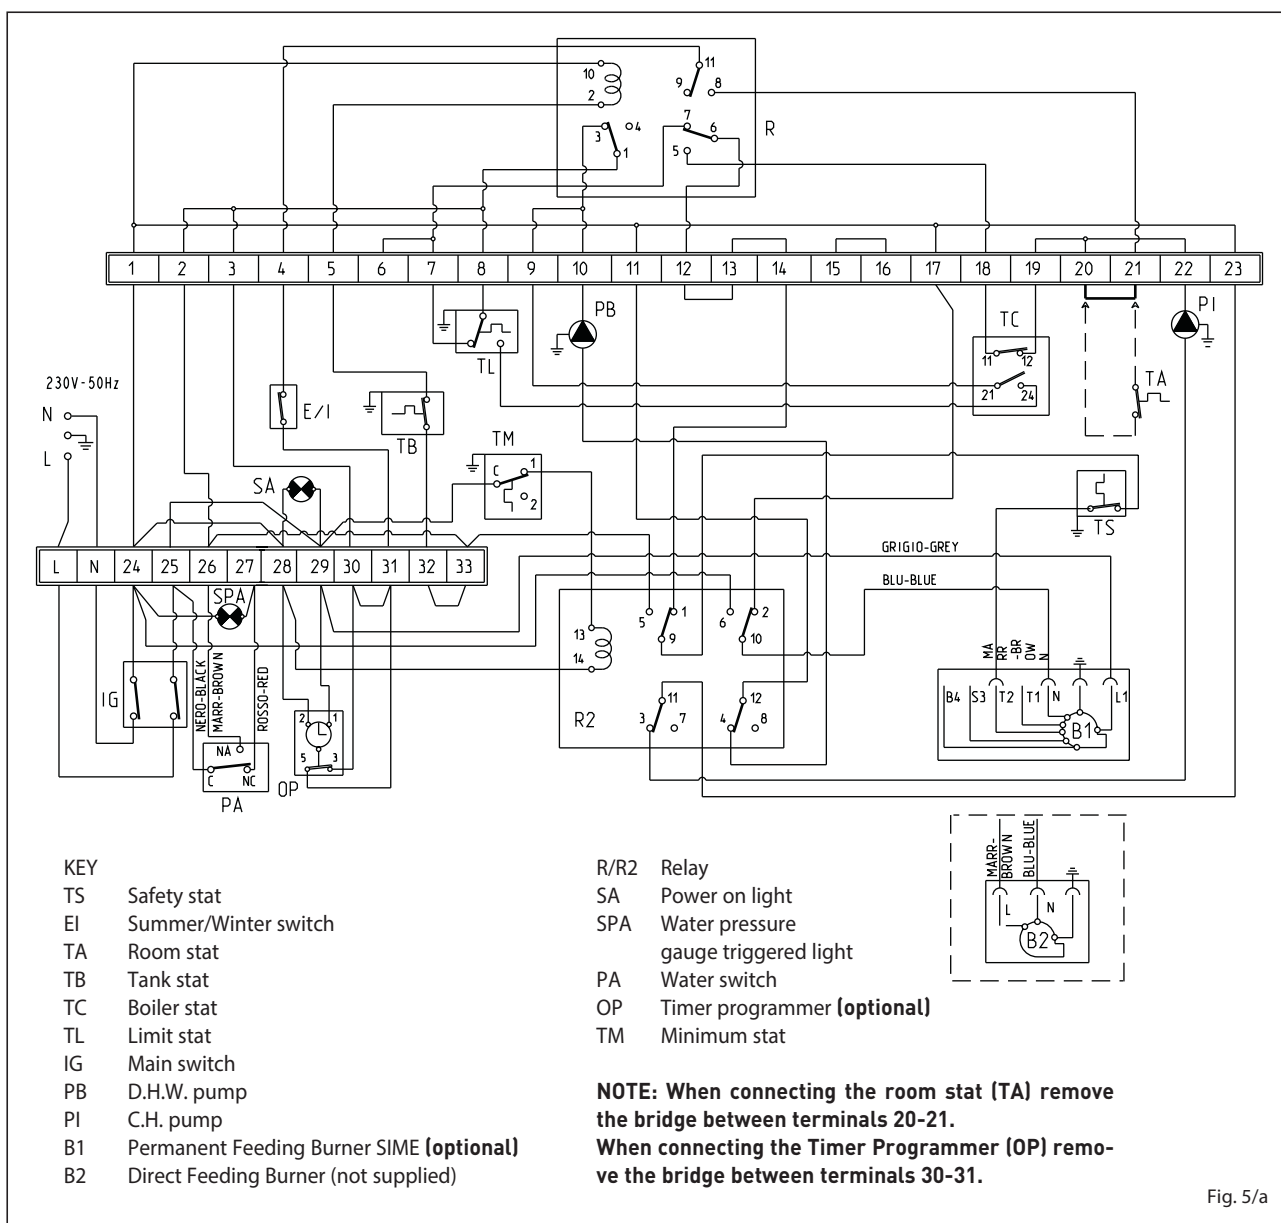

Fig. 5/a
2.6 ELECTRICAL CONNECTION (fig. 5/a)
The boiler is fitted with an electricity cable, and requires a single-phase power supply of 230V - 50Hz through the main switch protected by fuses. The room thermostat (required for enhanced room temperature control) should be installed as shown in fig. 5/a. Connect the burner and system circulation pump power cables supplied.